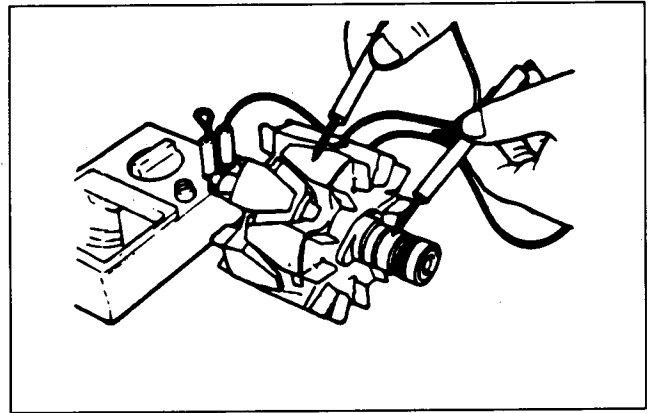

Figure 51
11. Check for continuity between a slip ring and shaft (core) (Fig. 51). Replace the field coil if there is continuity.